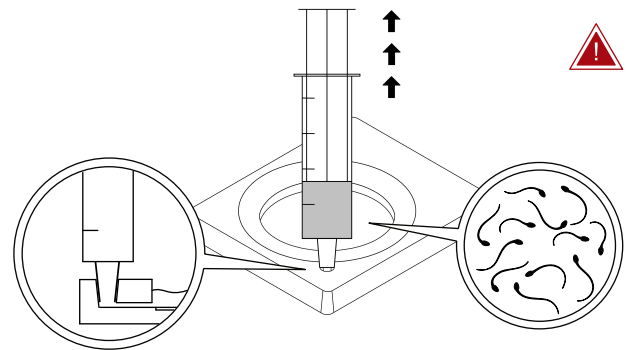

Figure 5. Slowly aspirate a maximum of 1.5 mL.
8. After 30 minutes incubation, insert a fresh 5 mL syringe into the outlet port of device. Slowly aspirate a maximum of 1.5 mL of the sperm-containing fluid (Figure 5).